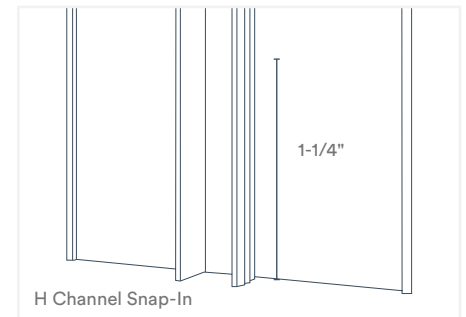

Fig. 19
3. Measure and mark 1-1/4" inwards from the bottom edge (end) of the H Channel Snap-In Trim. At the mark, make a vertical snip in both grooved standoffs using tin snips (Fig. 19).